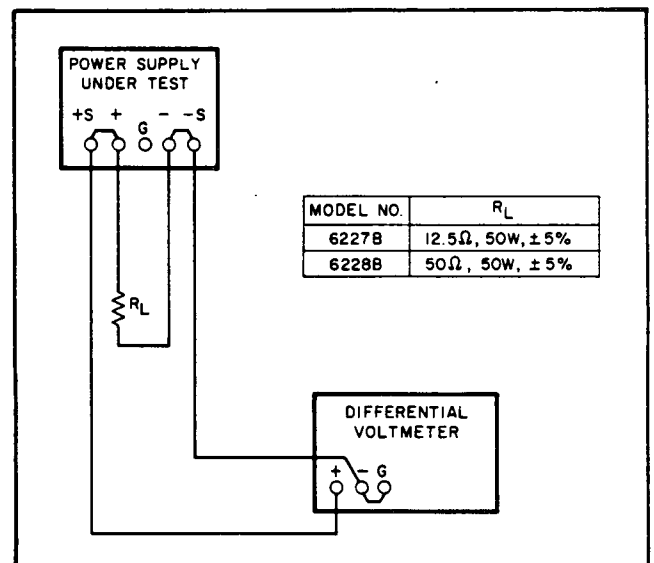

Figure 5-2. Constant Voltage Load Regulation Test Setup
- Connect load resistor ( $R_L$ ) indicated in Figure 5-2 across output terminals of supply.
- Connect test setup shown in Figure 5-2.
- a. Connect load resistance and differential voltmeter as illustrated in Figure 5-2.